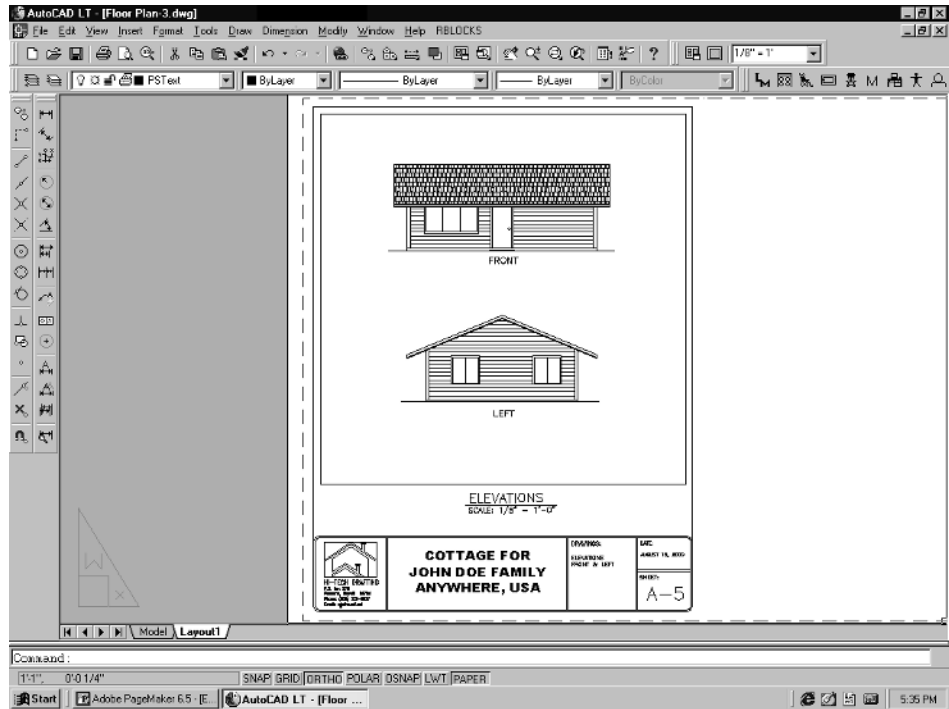

Figure 4-65
5. Now, use the DText or MText command to label the front and the left elevations. The text scale should be .125, or 1/8". Also, change the sheet number and drawings on your border. See Figure 4-65.